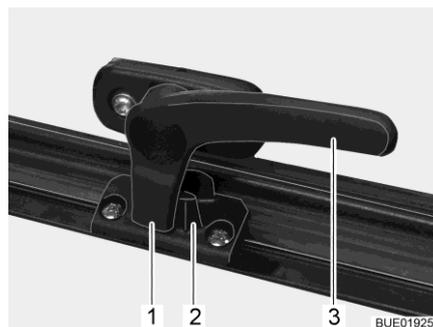

Fig. 19 Catch lever ("closed" position)
- Turn the catch lever (Fig. 19,3) a quarter turn towards the centre of the window.
- Turn the catch lever (Fig. 19,3) a quarter turn towards the window frame. The locking catch (Fig. 19,1) is located on the inside of the window catch (Fig. 19,2).
- "Firmly closed" (Fig. 19).